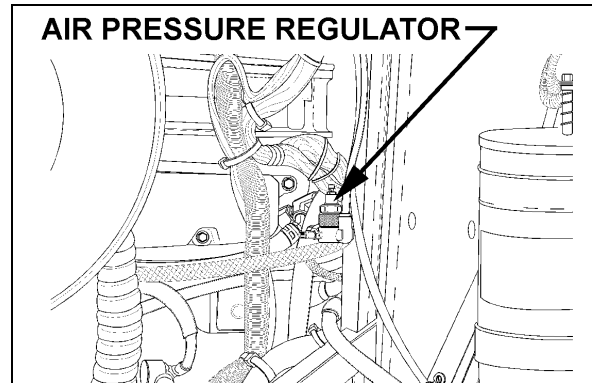

FIGURE 14: AIR PRESSURE REGULATOR (TYPICAL) 07037
21. Adjust the retarder pressure to 80 ± 3 psi with the air pressure regulator. For more information refer to Section 12, "BRAKE AND AIR SYSTEM", under heading "AIR PRESSURE REGULATOR". The air pressure regulator is located at back of engine compartment, on R.H. side (Fig. 14) or in the R.H. side rear service compartment.